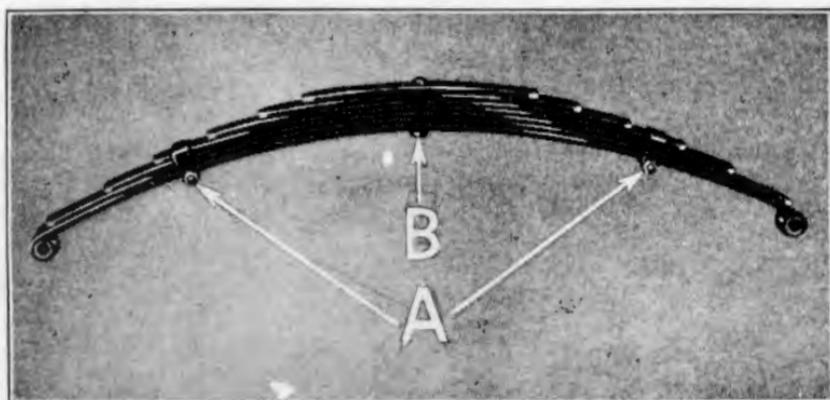

Fig. 368
- 679 Examine spring for broken or twisted leaves. The spring is disassembled by running off the nuts on the two spring clamp bolts (See "A" Fig. 368) and withdrawing bolts and clamps. The spring is then placed in a vise and the tie bolt nut "B" run off and bolt withdrawn from spring. If spring leaves are cracked, twisted or broken new leaves should be installed.